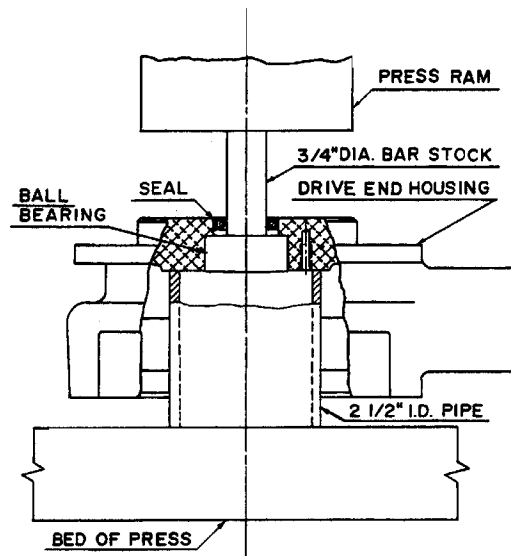

FIGURE 4
2. Use a 3/4 inch diameter length of bar stock against the bearing inner race to press bearing (3) from housing (7). Discard the bearing. (See Figure 4.)
3. Press the seal (5) out of the housing (7) or pull it with a hook type puller. Seal can be removed in either direction with retainer plates removed. Discard after removal.